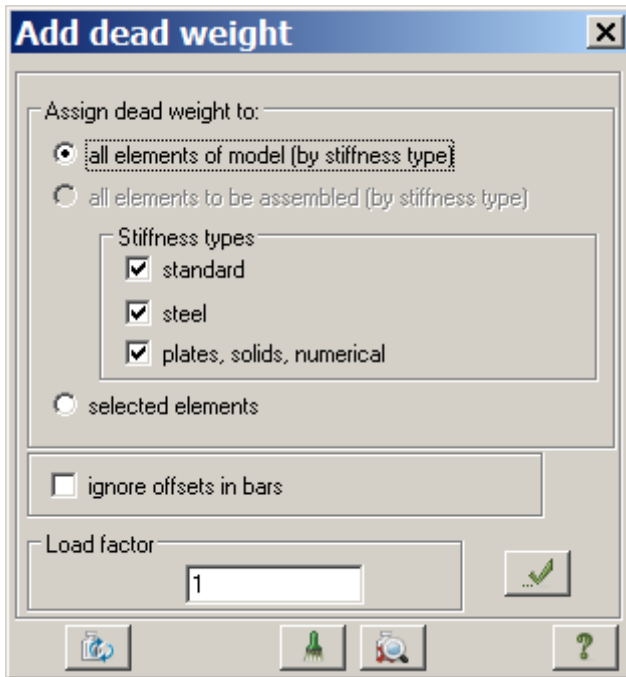

Figure 7.19 **Add dead weight** dialog box
- ⇒ In the **Add dead weight** dialog box (see Fig.7.19), click **All elements** and specify **Load factor** as equal to 1. Then click **Apply**  (dead weight of elements is added automatically).